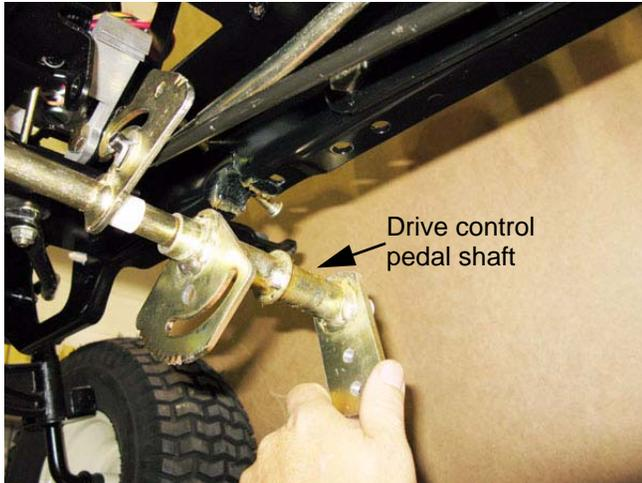

Figure 5.28
11. Allow the drive pedal shaft to rotate down, then pull it off of the pedal shaft assembly. See Figure 5.28.